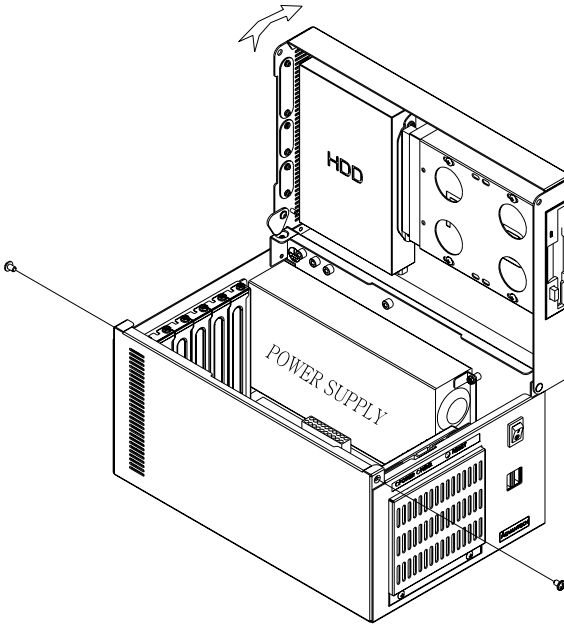

Figure 2.1: Opening the top cover
1. Remove two screws (one on each side) which secure the cover to the card cage (see Figure 2-1).